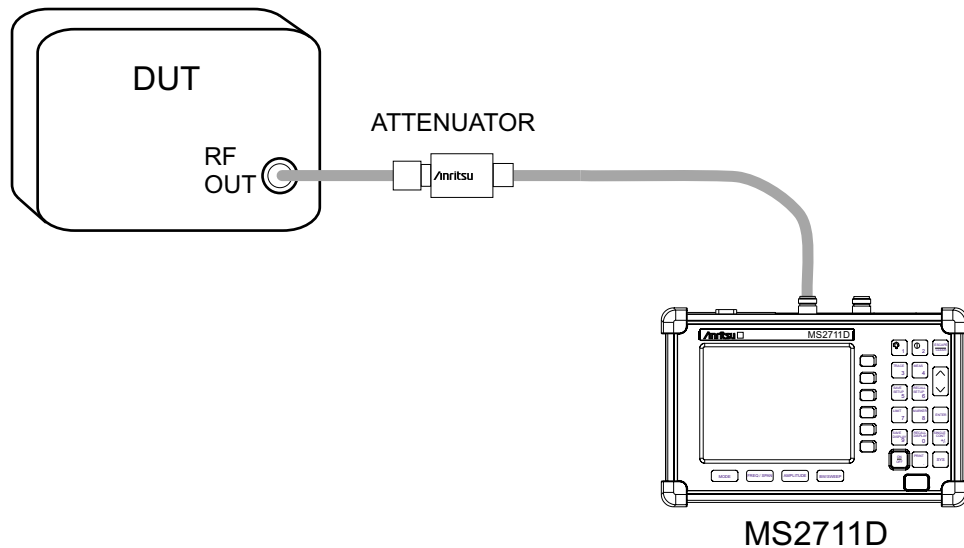

Figure 6-1. Power Meter Measurement Setup, Internal Power Meter
- Step 1.** The maximum input signal for measurements is +20 dBm. If the signal is larger than +20 dBm, use an attenuator on the input to reduce the power level. Insert an attenuator between the DUT and the RF detector, of sufficient rating to insure that the input power to the MS2711D is no greater than +20 dBm. Refer to Figure 6-1.